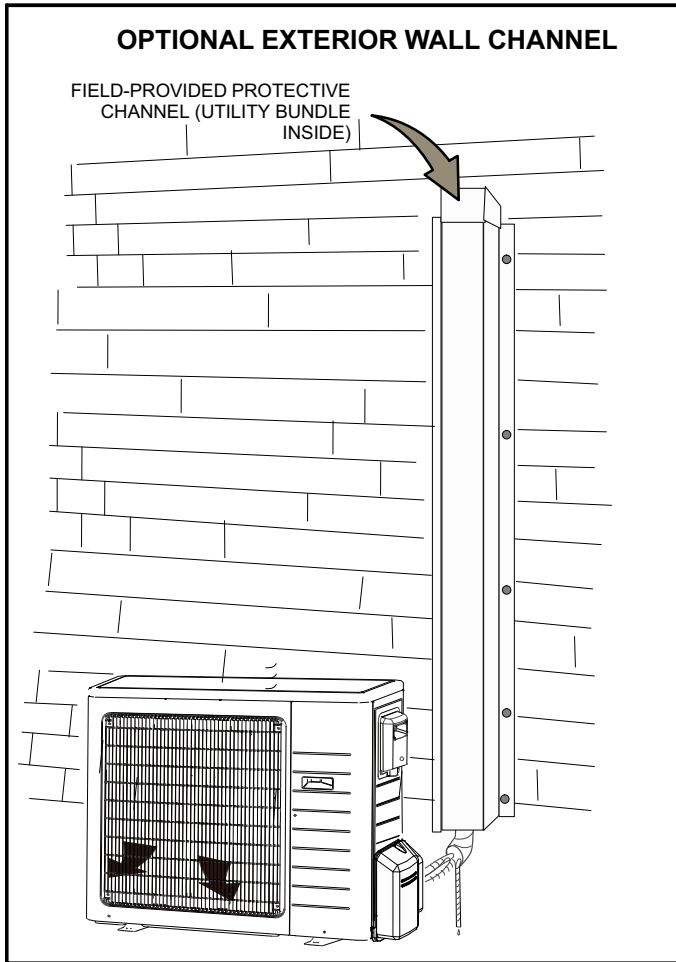

FIGURE 47
3. An optional field-provided exterior wall channel may be used in lieu of taping the utility bundle (see figure 47) to protect the bundle from UV rays, weather, etc.